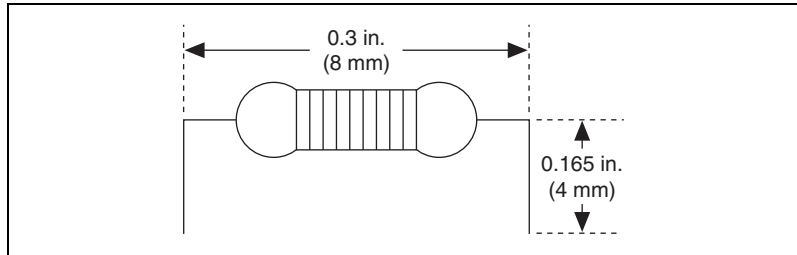

Figure 4-9. Preparing Lead Wires of Replacement Resistors
- Cut and bend the lead wires of the resistors you want to install. Refer to Figure 4-9.